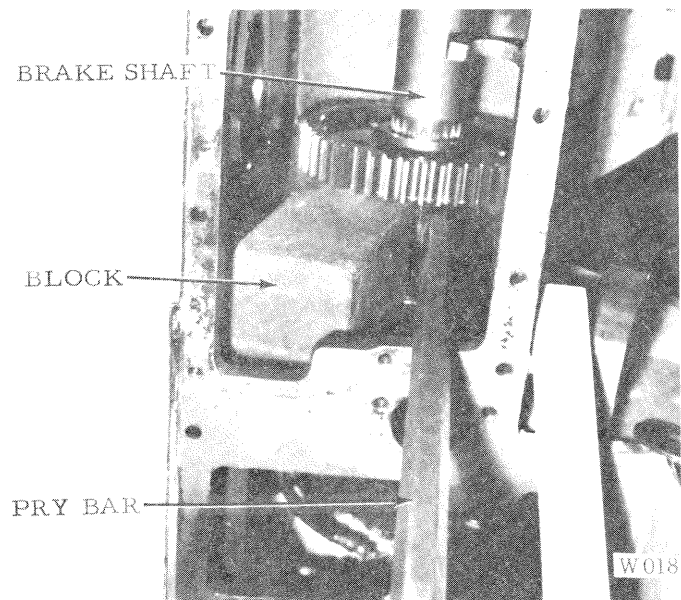
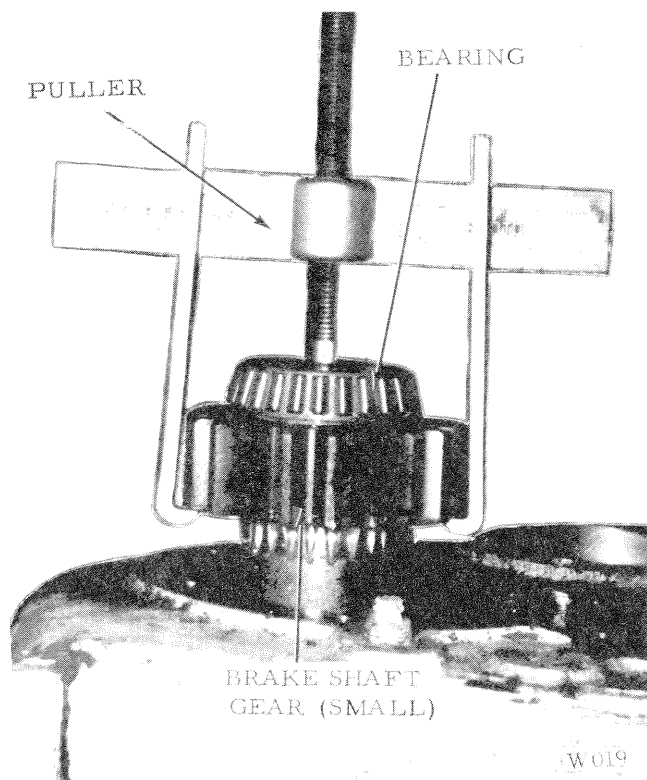

Figure 18
Figure 19
a. If the bearing only is to be removed, pry the shaft up until the small gear is out of the side frame; then, block in this position. Fig. 18. Push the bearing off the shaft with the small gear, using a gear puller. Fig. 19.